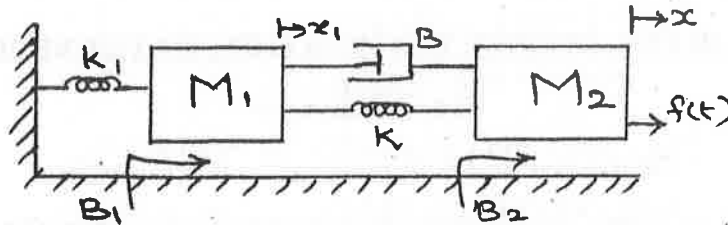

Figure 11(a)(ii)
11. (a) (i) What are the basic elements of mechanical rotational systems ? Write its force balance equations. (4)
- (ii) Write the differential equations governing the mechanical translational system shown in figure 11(a)(ii) and determine the transfer function. (12)